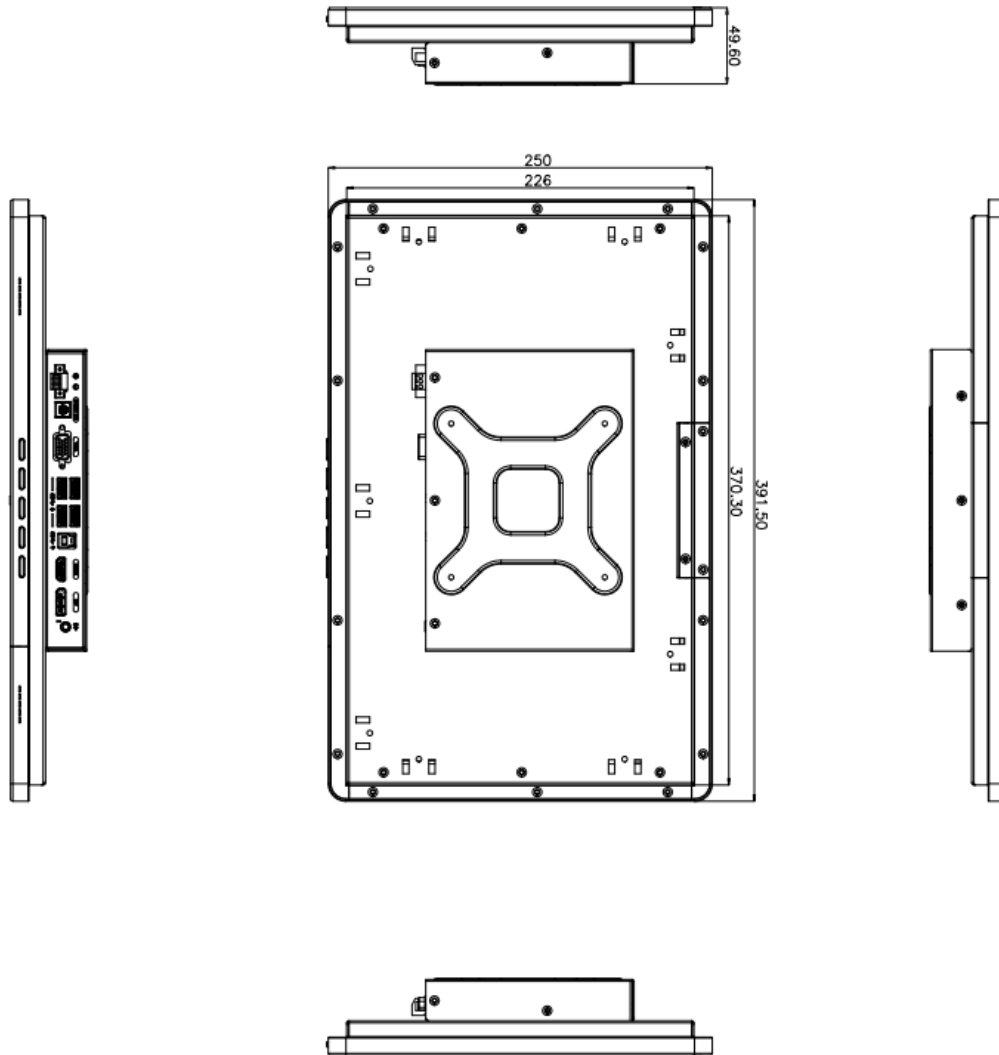

Figure 1-16: DM2-W156K(L) Physical Dimensions (Unit: mm)
1.9.10 DM2-W156K(L) Physical Dimensions
The physical dimensions of the DM2-W156K(L) are shown in the **Figure 1-16**.